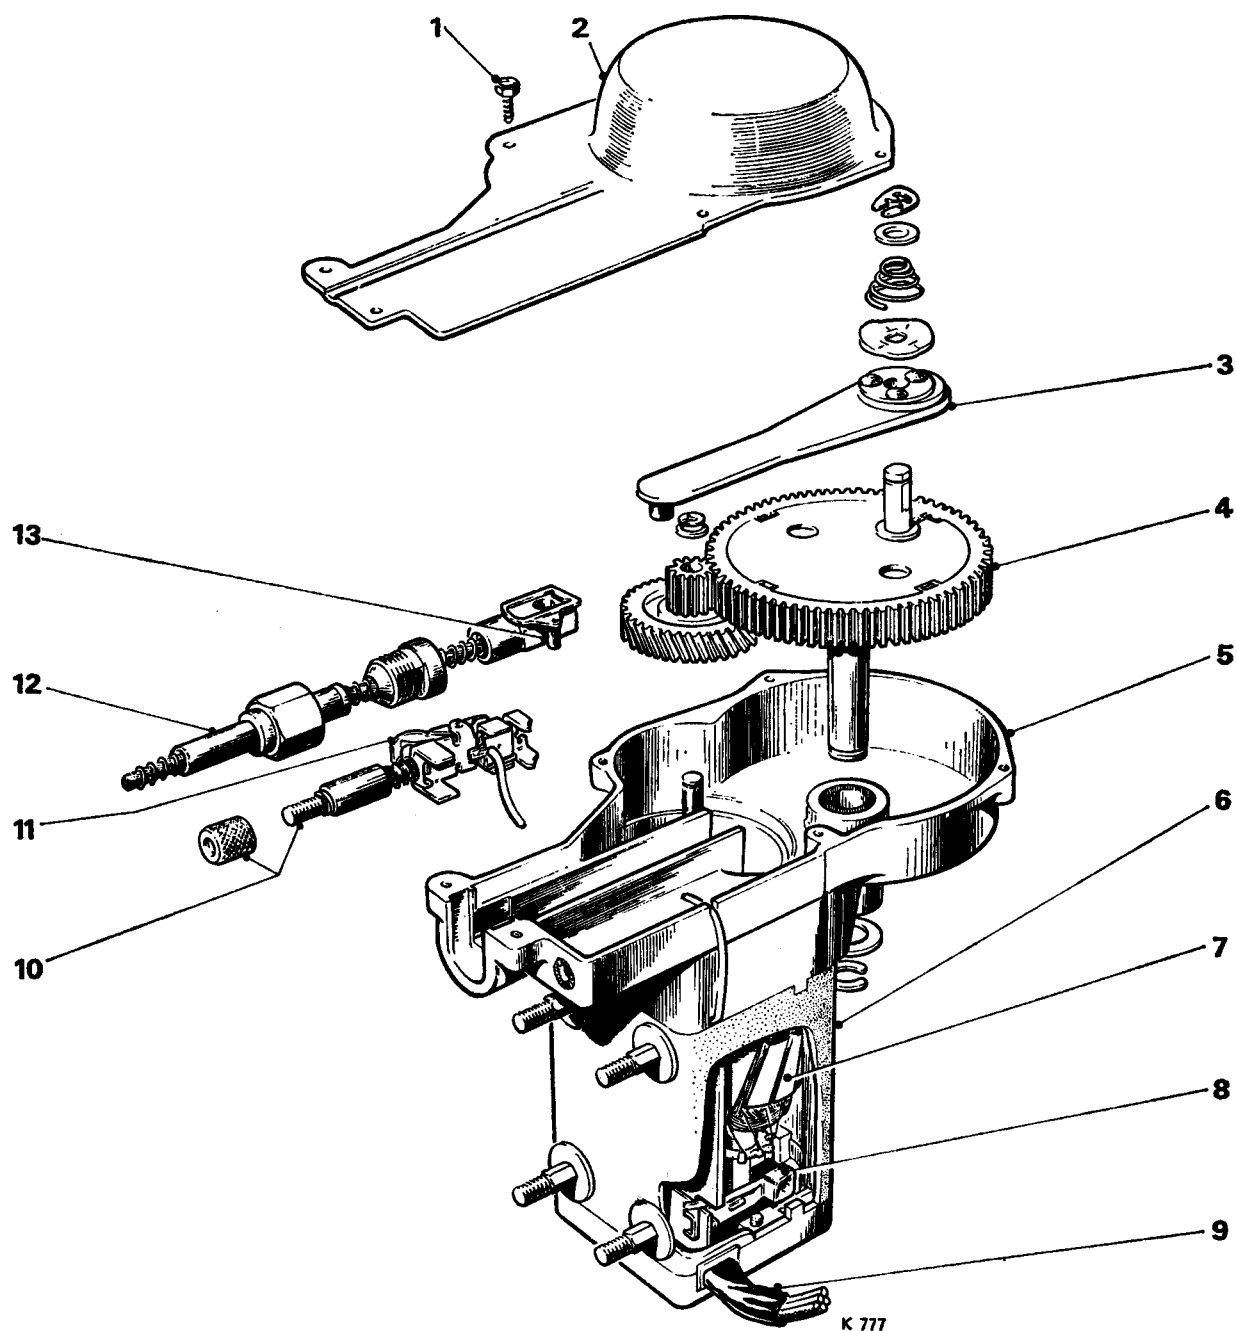

FIG. M73 EXPLODED VIEW OF 'LUCAS' 6 W WIPER MOTOR
1. Unscrew and remove the six self-tapping screws which secure the gearbox cover, then lift off the cover to expose the connecting rod and gearbox (see Fig. M73).
'Lucas' 6 W wiper motor—To dismantle (see Fig. M73)
2. Insert the hook of a spring balance into the hole on the cross-head (*see Fig. M73*) and withdraw the rack with the balance. The maximum permissible force required should not exceed 2,72 kg. (6 lb.).